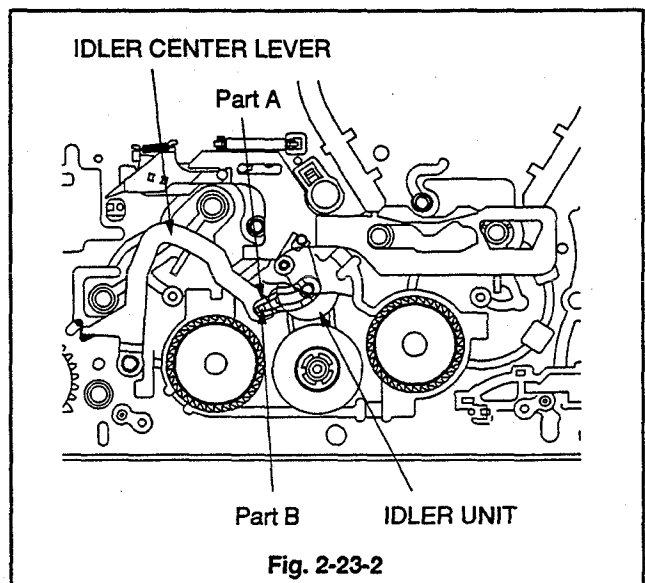

Fig. 2-23-2
1. Insert the Part A of the IDLER CENTER LEVER, shown in Fig. 2-23-2 into the Part B of the IDLER UNIT, when installing the IDLER CENTER LEVER.